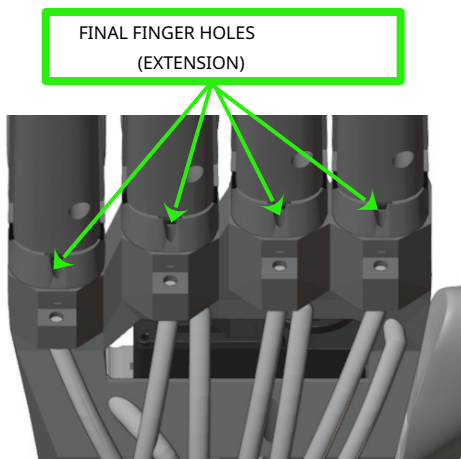
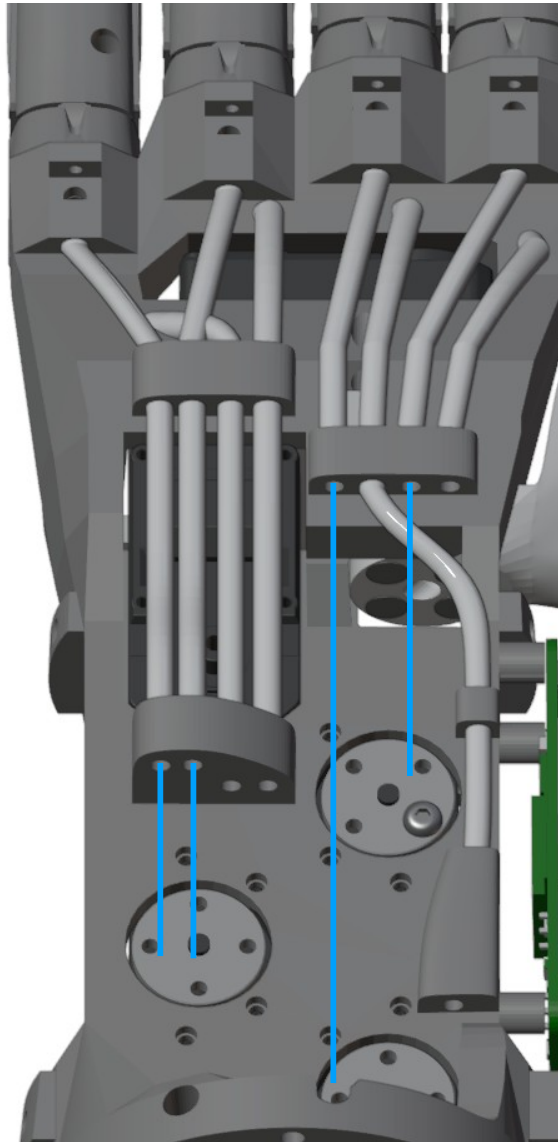

Figure 5.46: Tendon entry holes (extension)
Figure 5.47: Extension extremity of the tendons exiting from the bowden tubes
3. On the back of the skeleton: insert the two ends of the nylon needle into the final hole of the finger and then into the underlying entry hole of the bowden tube (figure 5.46).
5. Insert the extension end of the tendon into the loop of the nylon needle left outside the final hole of the finger (figure 5.46) and pull the ends of the nylon needle from the other end of the bowden tube, until the entire tendon comes out of the exit hole (figure 5.47)